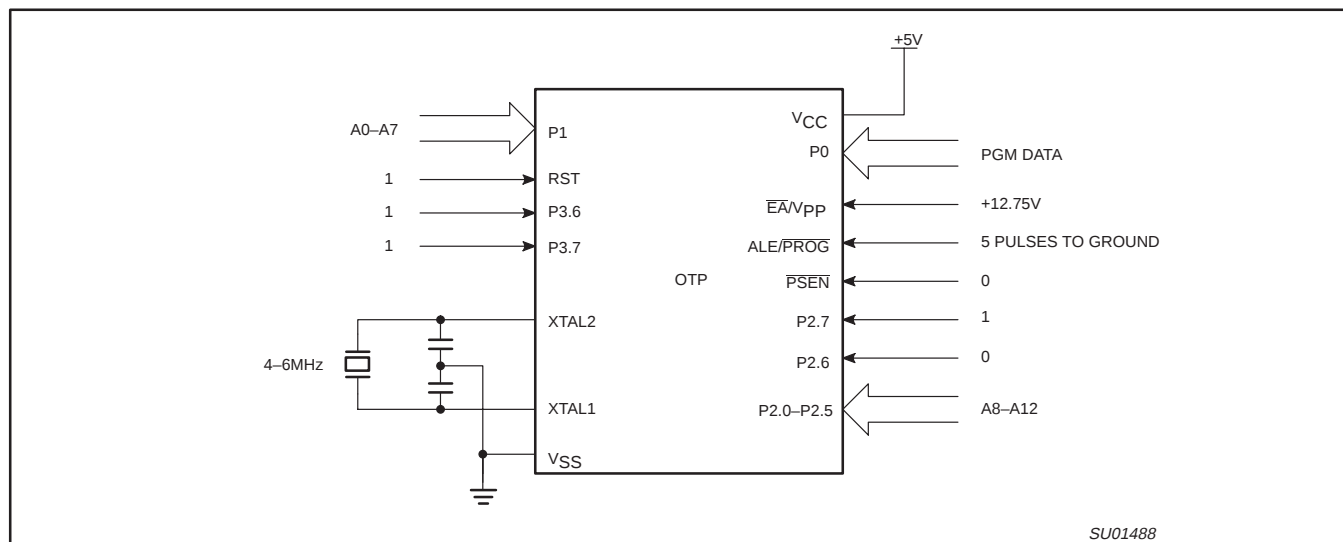
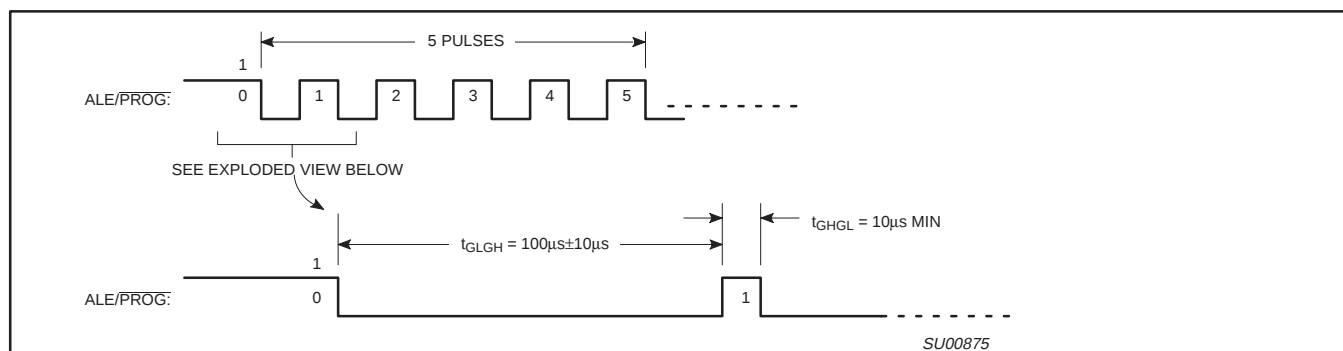
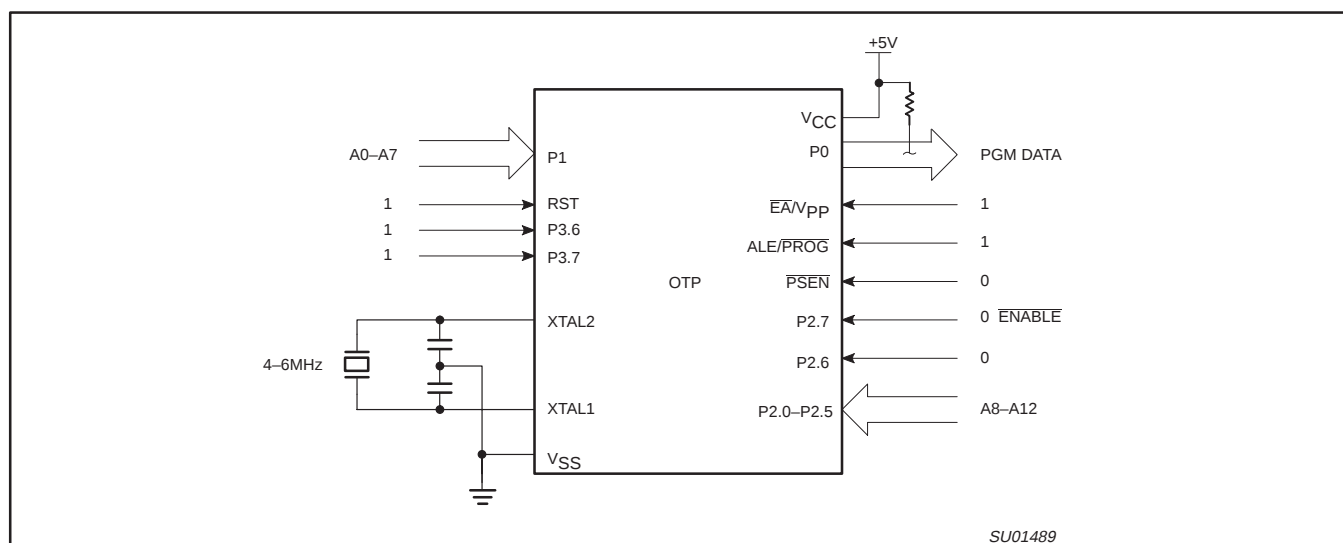

Figure 40. Programming Configuration
Figure 41. PROG Waveform
Figure 42. Program Verification
Table 9 shows the logic levels for reading the signature byte, and for programming the program memory, the encryption table, and the security bits. The circuit configuration and waveforms for quick-pulse programming are shown in Figures 40 and 41. Figure 42 shows the circuit configuration for normal program memory verification.
The setup for microcontroller quick-pulse programming is shown in Figure 40. Note that the device is running with a 4 to 6 MHz oscillator. The reason the oscillator needs to be running is that the device is executing internal address and program data transfers.
The address of the EPROM location to be programmed is applied to ports 1 and 2, as shown in Figure 40. The code byte to be programmed into that location is applied to port 0. RST, $\overline{PSEN}$ and pins of ports 2 and 3 specified in Table 9 are held at the 'Program Code Data' levels indicated in Table 9. The ALE/PROG is pulsed low 5 times as shown in Figure 41.
If security bits 2 and 3 have not been programmed, the on-chip program memory can be read out for program verification. The address of the program memory locations to be read is applied to ports 1 and 2 as shown in Figure 42. The other pins are held at the 'Verify Code Data' levels indicated in Table 9. The contents of the address location will be emitted on port 0. External pull-ups are required on port 0 for this operation.
* FOR PROGRAMMING CONFIGURATION SEE FIGURE 40.
FOR VERIFICATION CONDITIONS SEE FIGURE 42.